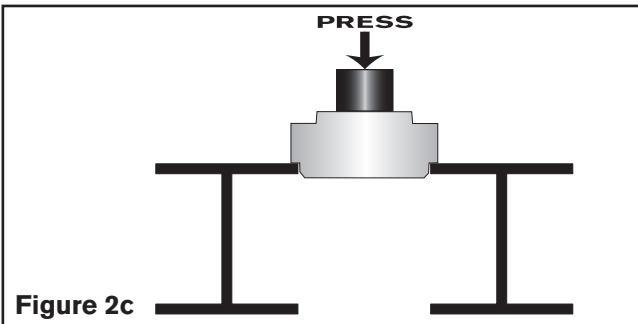

Figure 2c
8. Flip unit over (Hub facing down) and rest the edges of the Air Chamber (Item 3) on the I-beam and press Hub-Piston assembly from the Air Chamber. (Figure 2c)